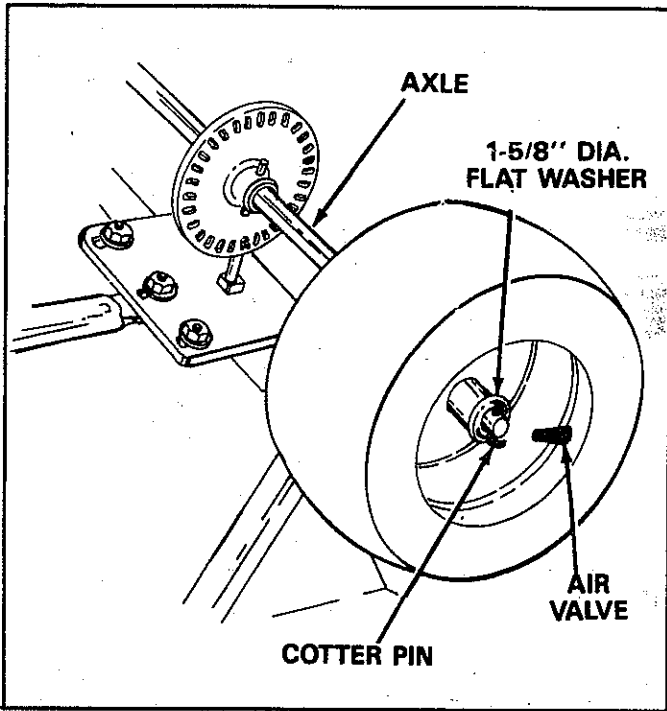

FIGURE 6
- Place wheel assembly without hole through hub (air valve to the outside) onto axle end having the smallest hole and secure with 1-5/8" diameter flat washer and 1/8" x 1-1/2" cotter pin. See figure 6. Use extra 1-5/8" diameter flat washer if needed to take up play.